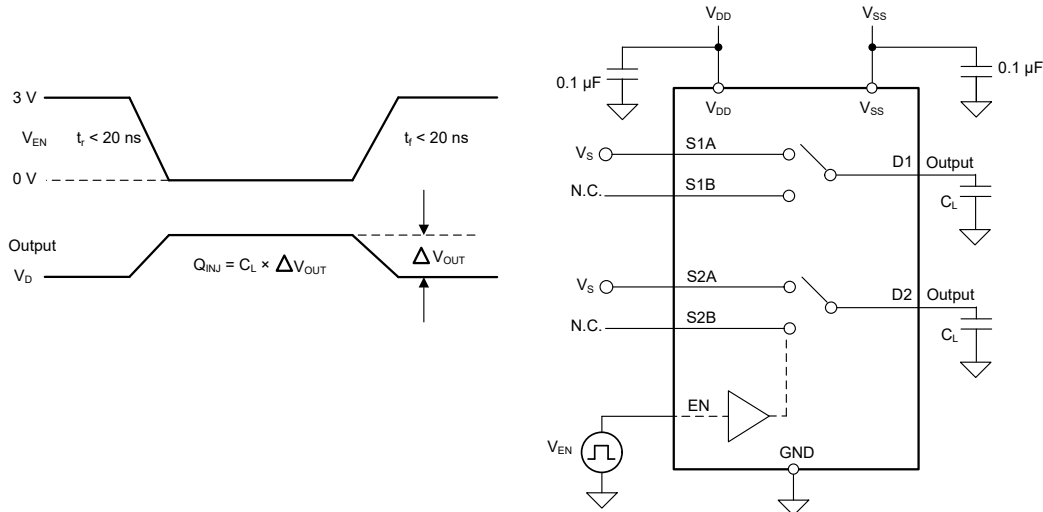

Figure 7-9. Charge-Injection Measurement Setup
The TMUX7236 has a transmission-gate topology. Any mismatch in capacitance between the NMOS and PMOS transistors results in a charge injected into the drain or source during the falling or rising edge of the gate signal. The amount of charge injected into the source or drain of the device is known as charge injection, and is denoted by the symbol  $Q_{INJ}$ . Figure 7-9 shows the setup used to measure charge injection from source (Sx) to drain (D).